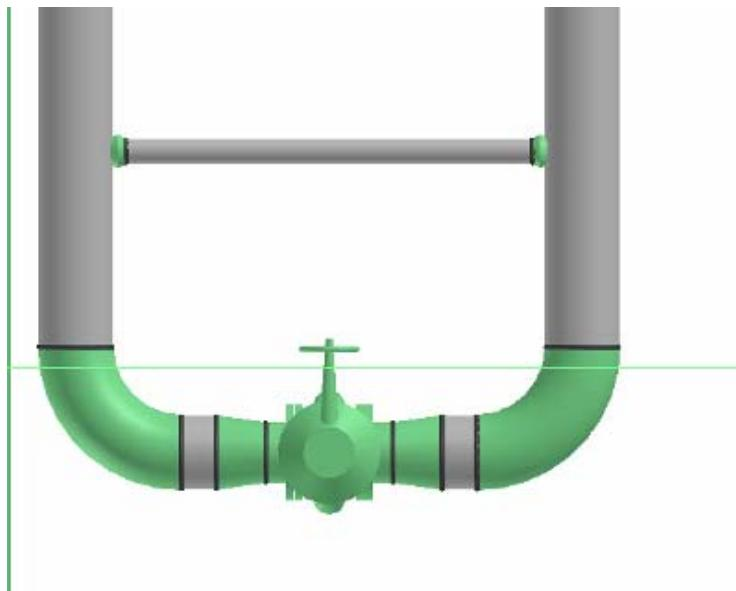

Figure 20: Placed Instrument
- Click the **Finish** button on the **Insert Component** ribbon to place the valve, as shown in Figure 20.